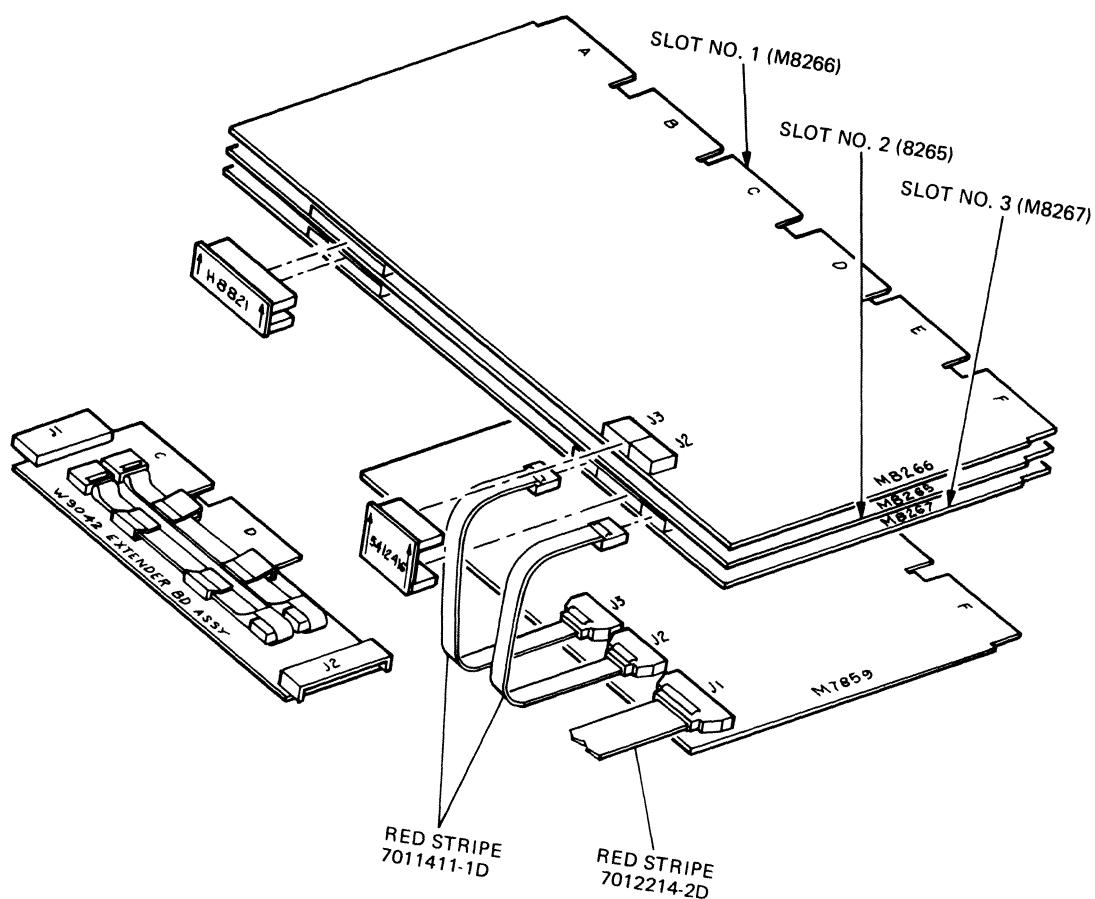

Figure 2-1 Maintenance Cable Installation
4. Calculate +5 Vdc current drain in the CPU backplane. Calculate +5 Vdc current drain for all other backplanes in box (Figure 2-1).
Remove the two 10-pin maintenance cables, if necessary, from the CPU (M8266) and install them in the FP module (M8267) as shown in Figure 2-1.
14. Install the two over-the-top (OTT) connectors as shown in Figure 2-1. Use H8822 if the cache and FP are both present.
18. Calculate the current drain at +5 Vdc for the backplane (DD11-PK) (Table 2-1 and Figure 2-1).